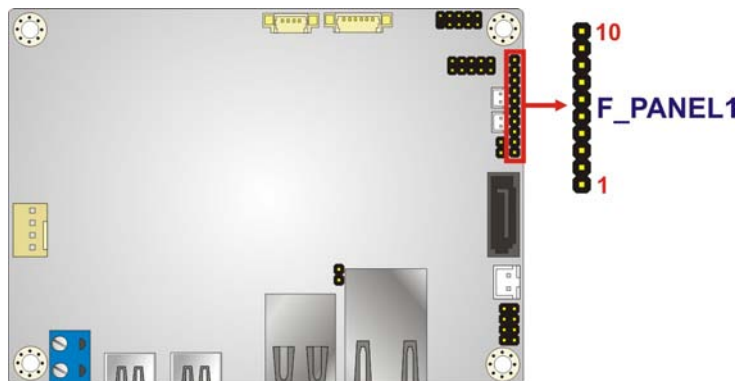

Figure 3-13: Front Panel Connector Location
- CN Location: See **Figure 3-13**